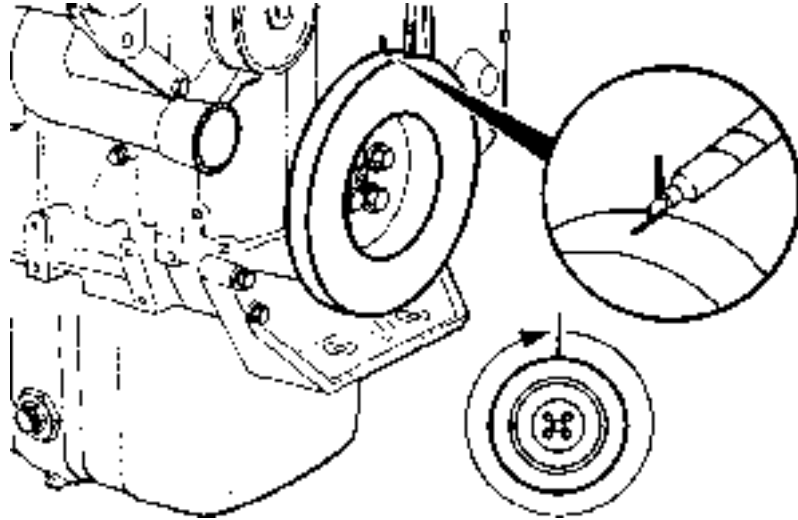
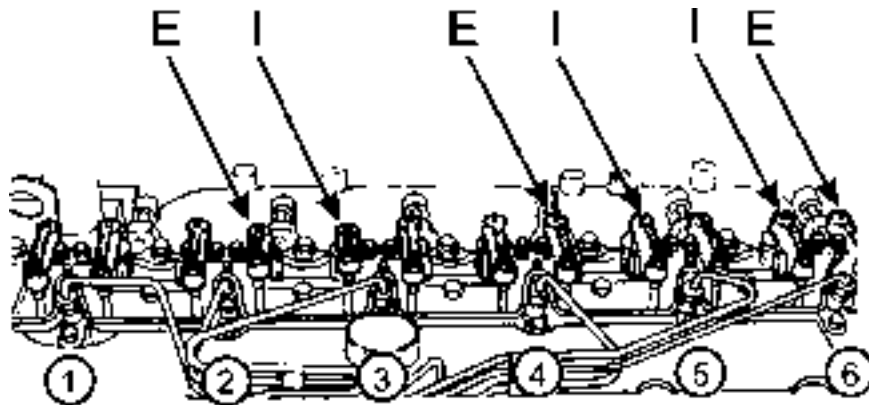

Fig. 5.19. Vibration Damper Position Mark
Fig. 5.20. Engine Valves (Step 2)
6. Mark the position of the vibration damper (Fig. 5.19) and rotate the camshaft by 360 [°]. Check and adjust (step 2), if necessary, the other valves as shown in Fig. 5.20 as described in item 5 above.